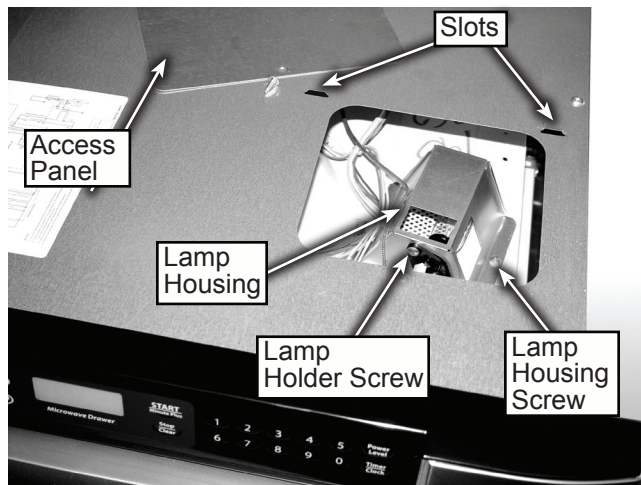

Figure 1
3. Remove one screw securing the access panel to the right front top of the microwave. The access panel is held in place by two tabs that engage two slots toward the rear, see figure 1.
4. To replace the oven lamp or lamp holder: Remove one screw securing the lamp housing to the top of the microwave, see figure 1.